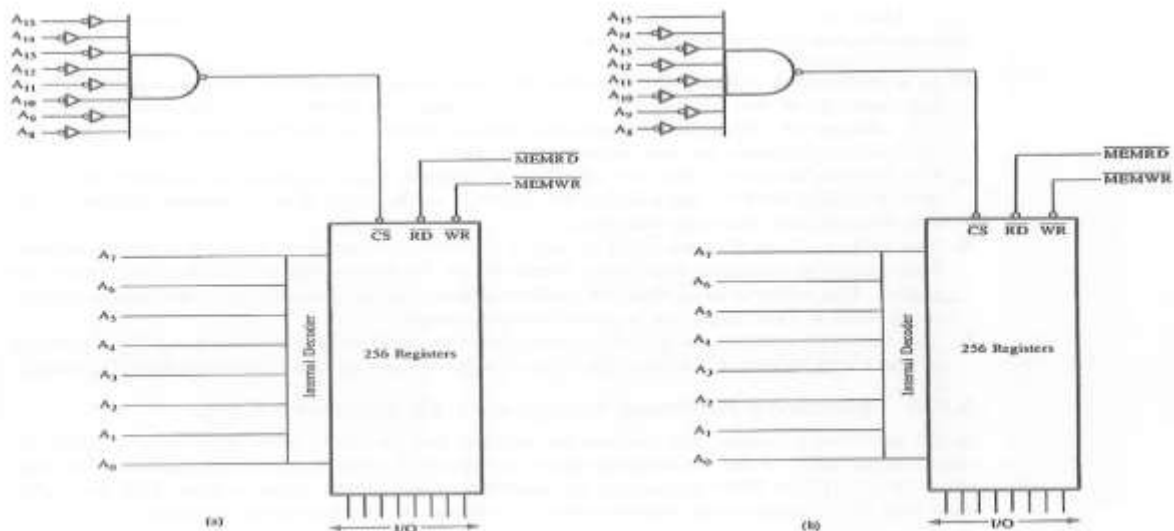

FIGURE 3.10
Figure 3.10(a) shows a memory chip with 256 registers with eight I/O lines; the memory size of the chip is expressed as  $256 \times 8$ . It has eight address lines ( $A_7-A_0$ ), one Chip Select signal (CS) (active low), and two control signals Read (RD) and Write (WR). The eight address lines ( $A_7-A_0$ ) of the microprocessor are required to identify 256 memory registers. The remaining eight lines ( $A_{15}-A_8$ ) are connected to the Chip Select (CS) line through inverters and the NAND gate. The memory chip is enabled or selected when CS goes low. Therefore, to select the chip, the address lines  $A_{15}-A_8$  should be at logic 0, which will cause the output of the NAND gate to go low. No other logic levels on the lines  $A_{15}-A_8$  can select the chip. Once the chip is selected (enabled), the remaining address lines  $A_7-A_0$  can assume any combination from 00H to FFH and identify any of the 256 memory registers through the decoder. Therefore, the memory addresses of the chip in Figure 3.10(a) will range from 0000H to 00FFH, as shown below.
are used to select a register, are called low-order address lines, and they can be assigned logic levels from all 0s to all 1s and any in-between combination. For example, when the address lines  $A_7$ – $A_0$  are all 0s, the register number 0 is selected, and when they are all 1s, the register number 255 (FFH) is selected. The Chip Select addresses are determined by the hardware (the inverters and NAND gate); therefore, the memory addresses of the chip can be changed by modifying the hardware. For example, if the inverter on line  $A_{15}$  is removed, as shown in Figure 3.10(b), the address required on  $A_{15}$ – $A_8$  to enable the chip will be as follows:
The memory address range in Figure 3.10(b) will be 8000H to 80FFH.
The memory chips in Figures 3.10(a) and (b) are the same chips. However, by changing the hardware of the Chip Select logic, the location of the memory in the map can be changed, and memory can be assigned addresses in various locations over the entire map of 0000 to FFFFH.